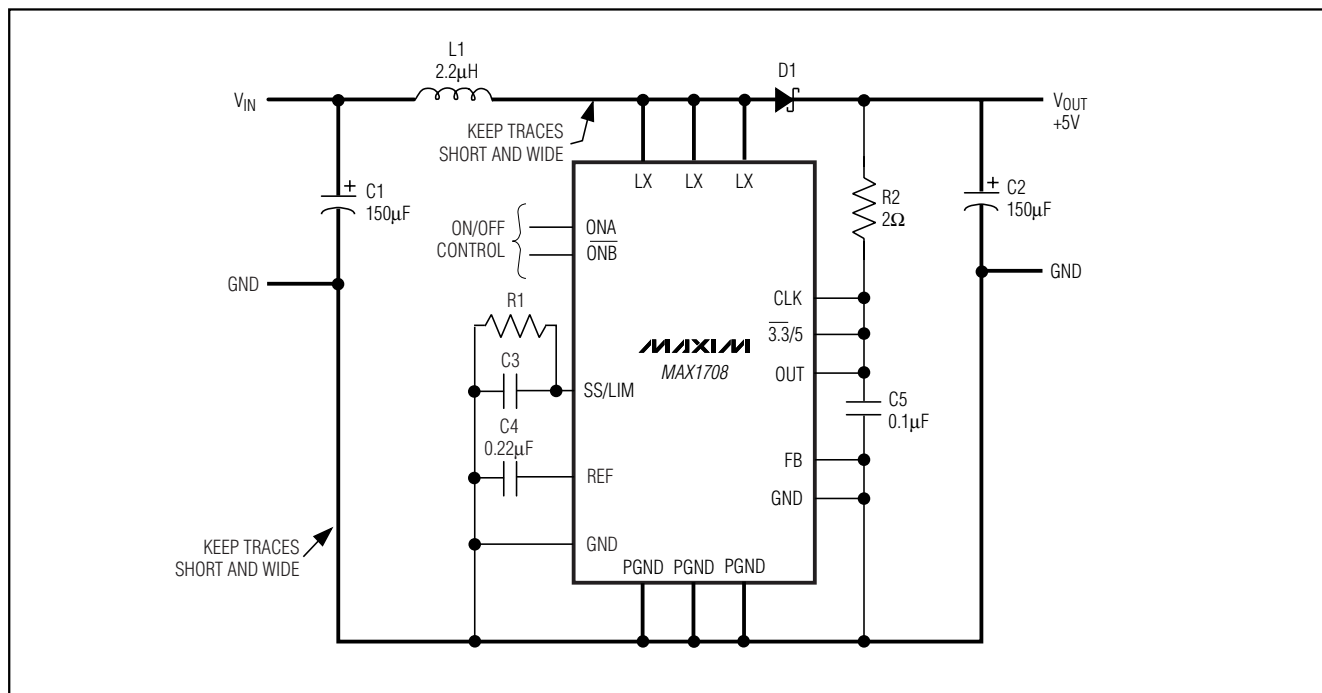
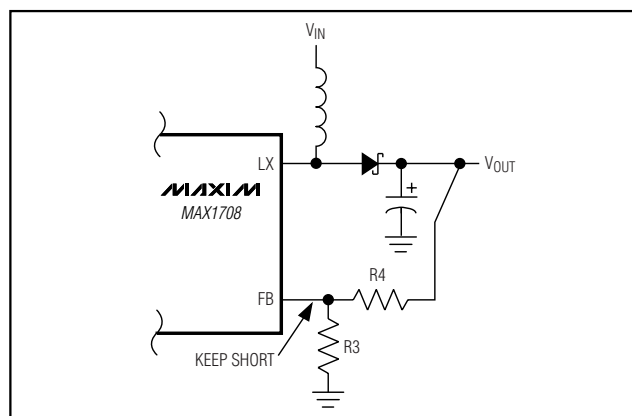

Figure 1. Standard Operating Circuit
Figure 4. Adjustable Output Voltage
**Note 4:** Startup is tested with Figure 1's circuit. Output current is measured when both the input and output voltages are applied.
(Circuit of Figure 1,  $T_A = +25^\circ\text{C}$ , unless otherwise noted.)
| 3, 4, 5    | LX                      | Drain of N-Channel Power Switch. Connect pins 3, 4, and 5 together with wide traces. Connect an external Schottky diode from LX to $\text{V}_{\text{OUT}}$ . (Figure 1)                                                                                                                                                                                                        |
| 10         | OUT                     | Output Voltage Sense Input. The device is powered from OUT. Bypass with a 0.1 $\mu\text{F}$ capacitor to PGND with less than 5mm trace length. Connect a 2 $\Omega$ series resistor from the output filter capacitor (0.1 $\mu\text{F}$ ) to OUT (Figure 1).                                                                                                                   |
| 11         | FB                      | DC-DC Converter Feedback Input. Connect FB to GND for internally set output voltage (see $\overline{33}/5$ pin description). Connect a resistor-divider from the output to set the output voltage in the +2.5V to +5.5V range. FB regulates to +1.24V (Figure 4).                                                                                                              |
The MAX1708 features Dual Mode™ operation. When FB is connected to ground, the MAX1708 generates a fixed output voltage of either +3.3V or +5V, depending on the logic applied to the 3.3/5 input (Figure 1). The output can be configured for other voltages, using two external resistors as shown in Figure 4. To set the output voltage externally, choose an R3 value that is large enough to minimize load at the output but small enough to minimize errors due to leakage and the time constant to FB. A value of  $R4 \leq 50\text{k}\Omega$  is required
The soft-start pin allows the soft-start time to be adjusted by connecting a capacitor from SS/LIM to GND. Select capacitor C3 (see Figure 1):
To improve efficiency or reduce inductor size at reduced load currents, the current limit can be reduced from its nominal value (see *Electrical Characteristics*). A resistor (R1 in Figure 1) between SS/LIM and ground reduces the current limit as follows:
$I_{\text{LIM}}$  = minimum value of switch current limit from *Electrical Characteristics* or set by R1 of Figure 1.
The output filter capacitor ESR must be kept under 30mΩ for stable operation. Polymer capacitors of 150μF (Panasonic EEFUE0J151R) typically exhibit 10mΩ of ESR. This translates to approximately 35mV of output ripple at 3.5A switch current. Bypass the MAX1708 IC supply input (OUT) with a 0.1μF ceramic capacitor to GND and a 2Ω series resistor (R2, as shown in Figure 1).
sensitive analog grounds by using a star ground configuration. Connect PGND, the input bypass capacitor ground lead, and the output filter capacitor ground lead to a single point (star ground configuration). In addition, minimize trace lengths to reduce stray capacitance and trace resistance, especially from the LX pins to the catch diode (D1) and output capacitor (C2) to PGND pins. If an external resistor-divider is used to set the output voltage (Figure 4), the trace from FB to the resistors must be extremely short and must be shielded from switching signals, such as CLK or LX. To optimize package power dissipation and minimize device heating under heavy loads, expand PC trace area connected to the three PGND pins as much as the layout can allow. This is best